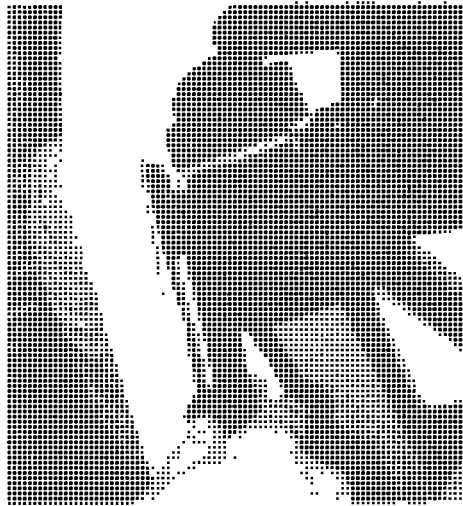

FIGURE 11.
8. Tighten both screws. See FIGURE 11.